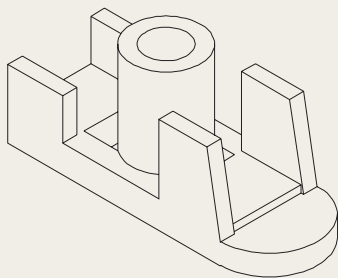
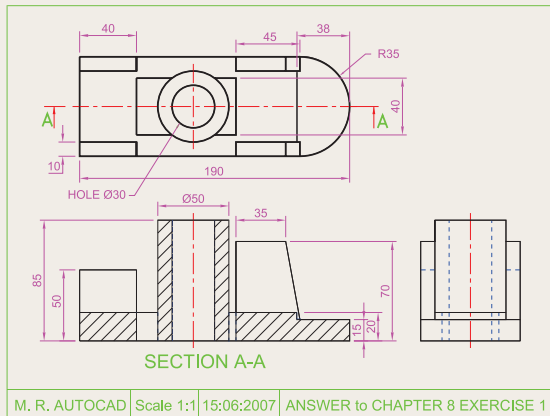

Fig. 8.19 Exercise – a pictorial view
Fig. 8.20 Exercise 1
Seventh example – advanced hatching (Fig. 8.20)
- Figure 8.19 shows a pictorial drawing of the component shown in the three-view orthographic projection of Fig. 8.20. Construct the three views but with the front view as a sectional view based on the section plane **A-A**.